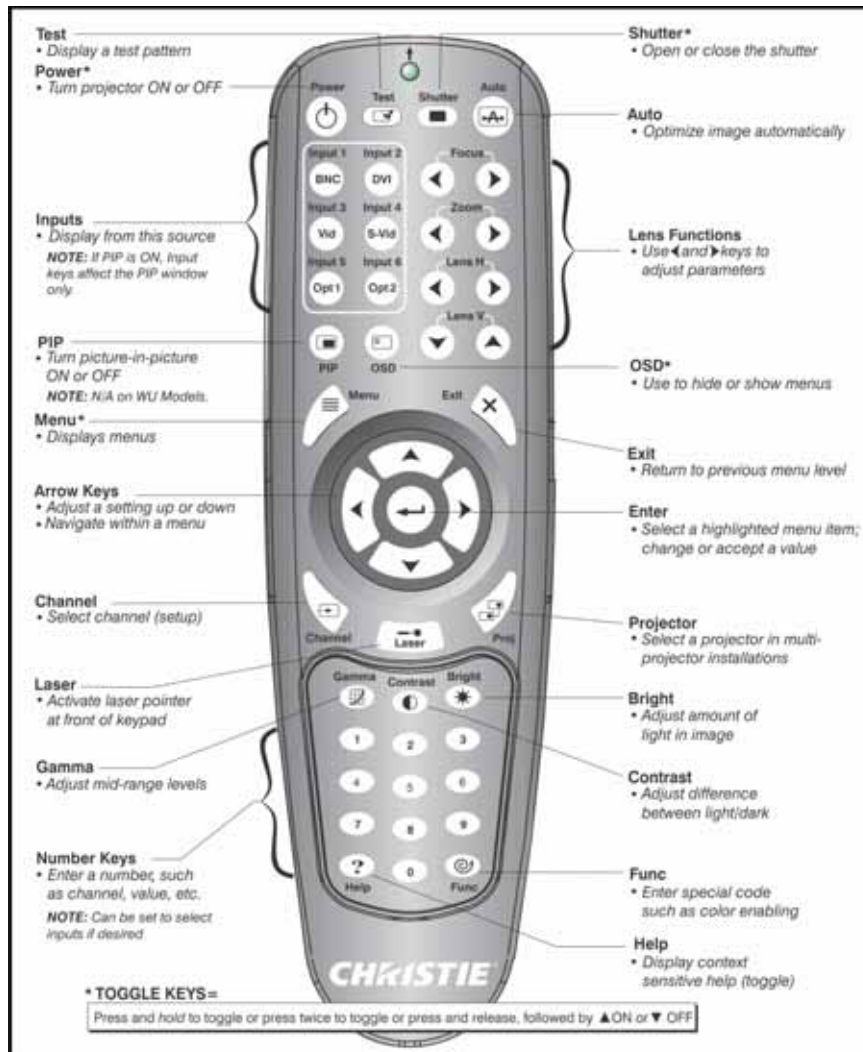

Figure 3-3 Standard IR Remote Keypad
- **The standard IR remote** (Figure 3-3) wired (includes a 100 ft. cable) or wireless control up to 100 feet
See the key descriptions provided for the standard IR remote (*Figure 3-3*).
Should you require a wired connection, use the cable (100 ft. cable supplied) to connect to the 3-pin XLR jack connector (*Figure 3-3*) located at the rear of the projector. You also need to set the proper internal jumper settings accordingly. The wired standard IR remote is recommended when: